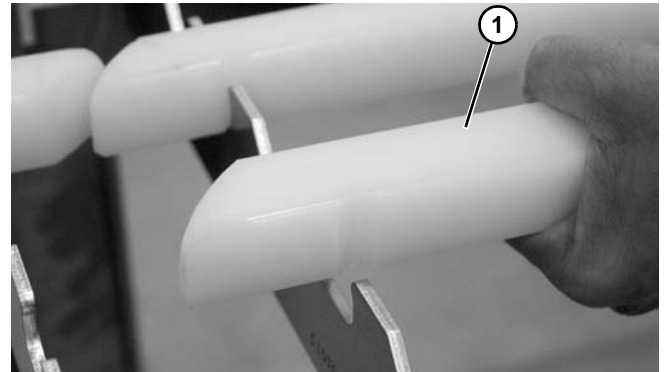

Figure 50
3. Remove wearstrips (**Figure 50, item 1**).